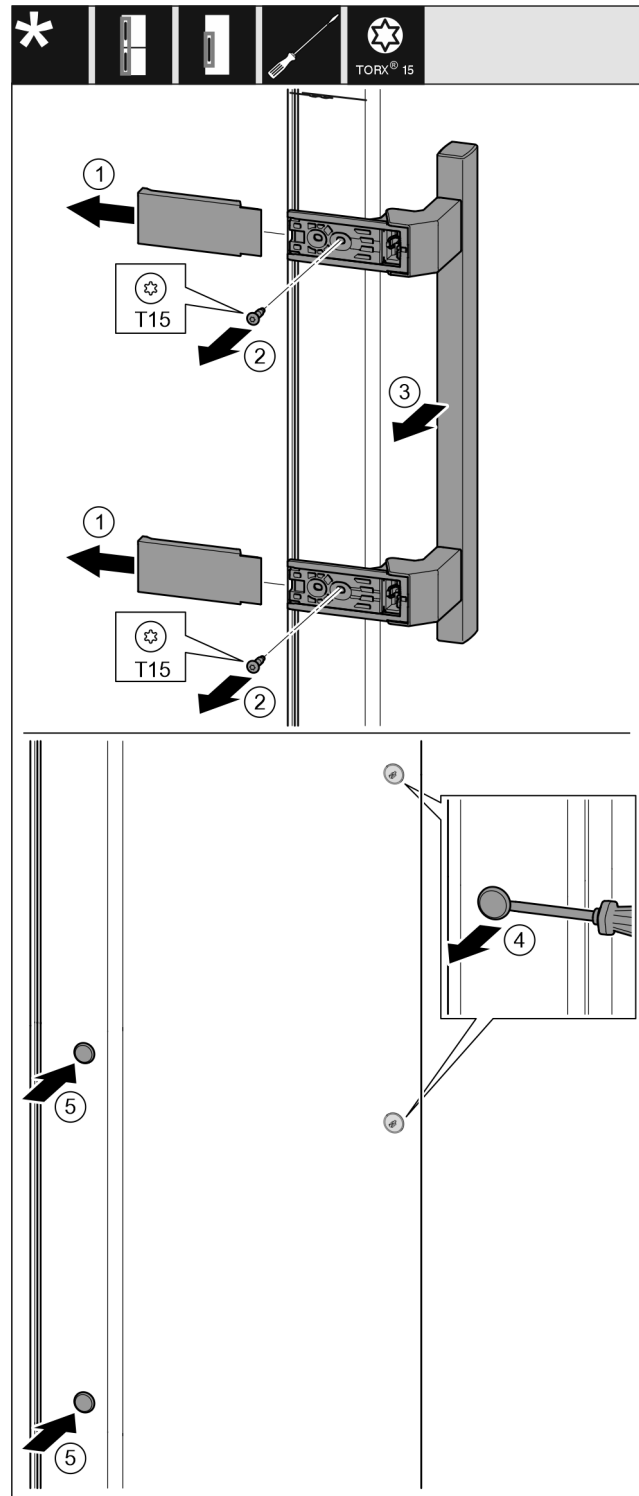

Fig. 20
- ▶ Pull off the cover. Fig. 20 (1)
- ▶ Remove the screws with the T15 screwdriver. Fig. 20 (2)
- ▶ Remove the handle. Fig. 20 (3)
- ▶ Carefully lift up the side plugs with a slotted screwdriver and pull them out. *Fig. 20 (4)*
- ▶ Insert the plugs again on the other side. *Fig. 20 (5)*